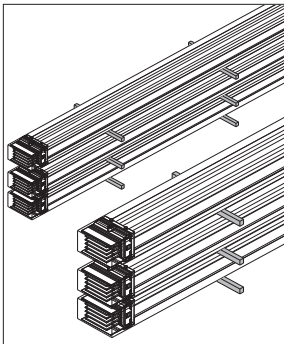

Figure 1
1. Read the info note on the pallet; lift and handle the the product as shown in "Figure 1" taking the pallet weight into consideration.